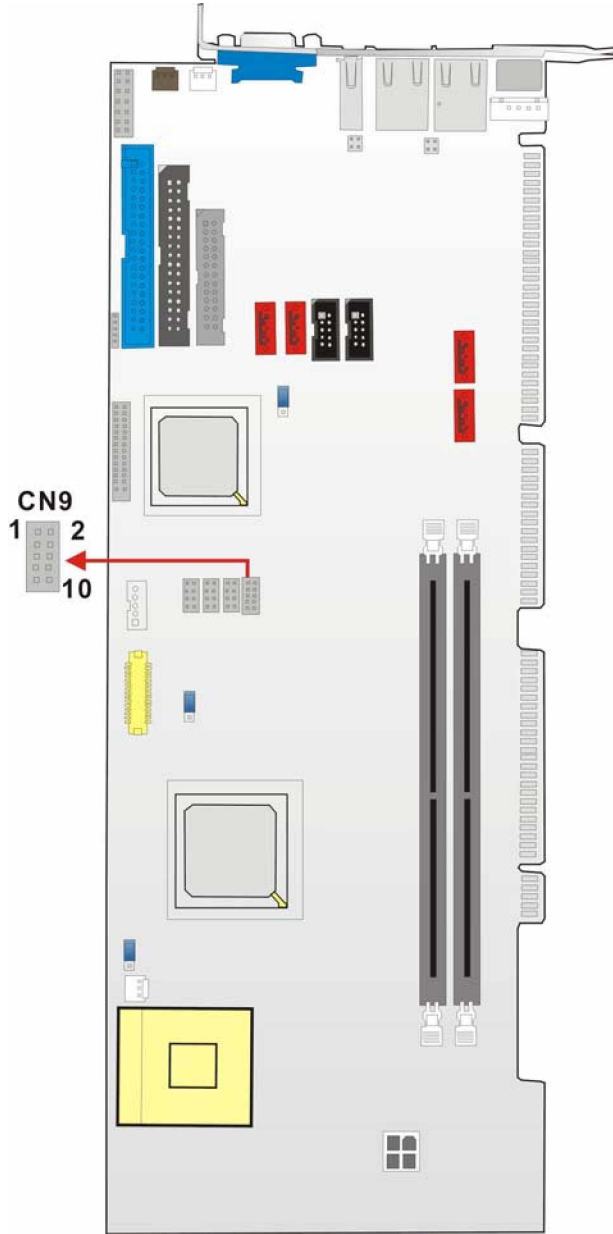

Figure 3-16: CN9 Connector Location
- CN Location:** See Figure 3-16